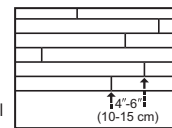

Figure 4
- Be attentive to staggering the ends of the boards at least 4"-6" (10-15 cm) when possible, in adjacent rows (Figure 4). This will help ensure a more favorable overall appearance of the floor.